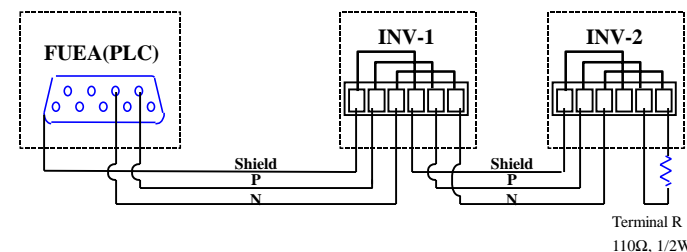

Figure 6. Wiring
- Connect terminal resistor at the last connected option board of 110 ohm, 1/2 watt. (refer to Figure 6)
* Connect terminal resistor at the last connected inverter between terminal P and N. (refer to Figure 6.)